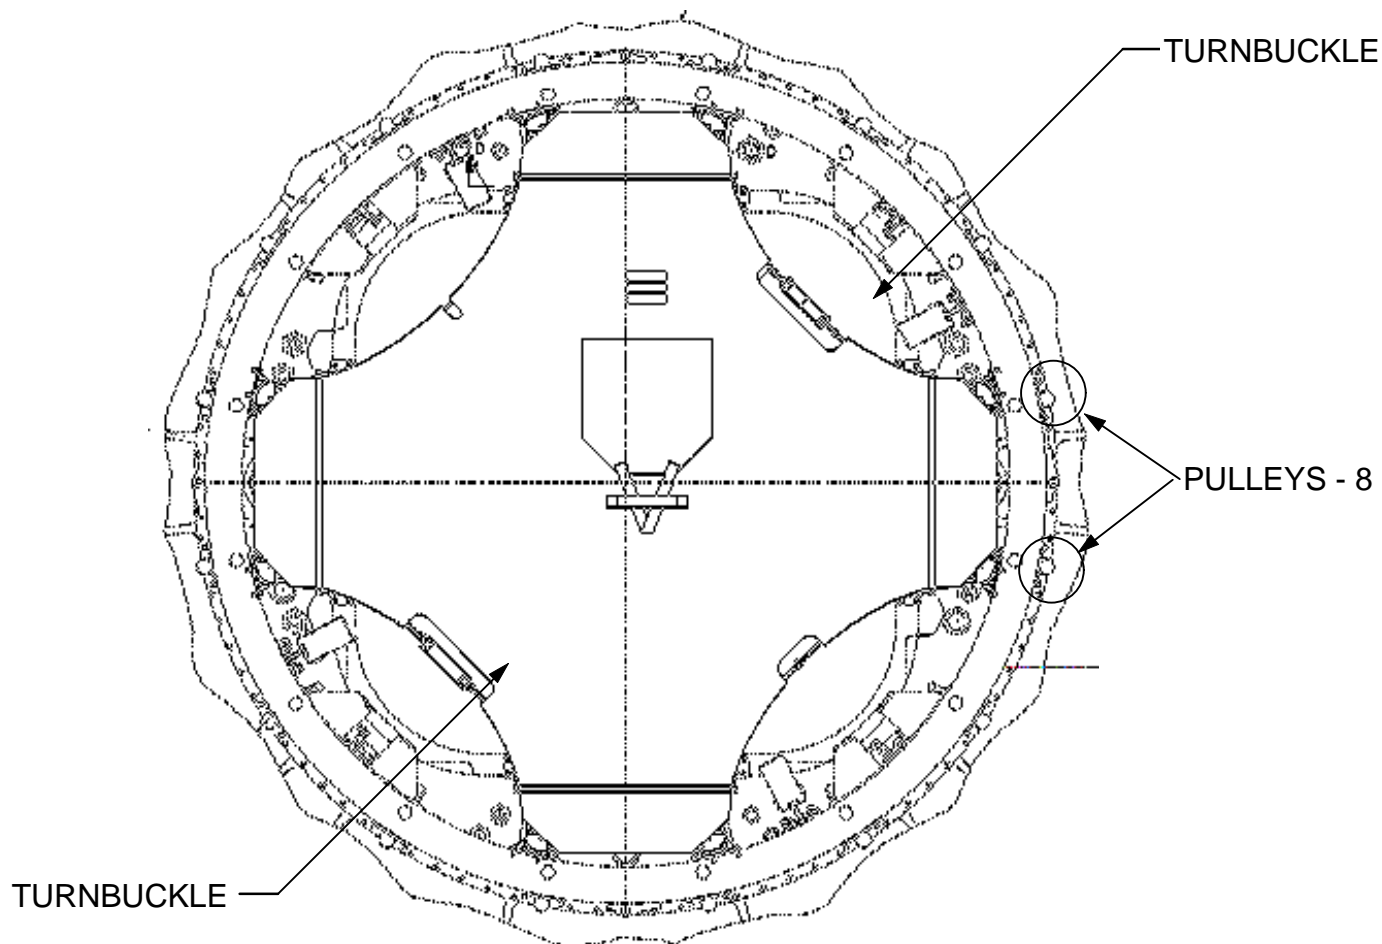

Figure 1. Meteor Debris Thermal Cover - View Looking From Passive To Active CBM
1. Loosen Jam Nuts (two) at ends of Turnbuckles (1/2" Combination Wrench, 6" Adjustable Wrench). See Figure 1 & 2.
17. Tighten Jam Nuts (two) at ends of Turnbuckles (1/2" Combination Wrench, 6" Adjustable Wrench). See Figure 1 & 2.